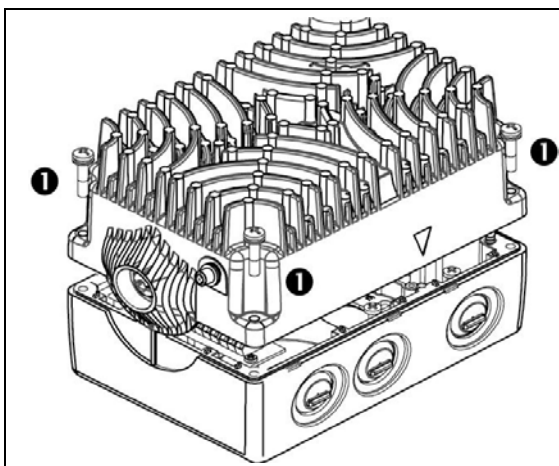

Figure 2-1 Removing Inverter cover
1. If the Inverter has already been fitted unscrew the four crosshead captive screws ❶ on the inverter cover (as shown in Figure 2-1).